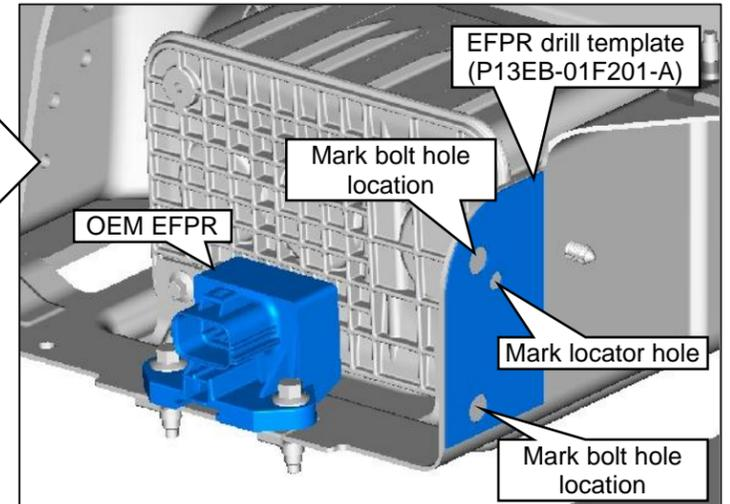

Figure 19.2 — OEM Aft-axle Tank Version
8. Position the EFPR drilling template to the outside of the vapor canister bracket as shown. Mark the two bolt hole locations, as well as the EFPR bracket locator hole and remove the template. **Figure 19.2.**